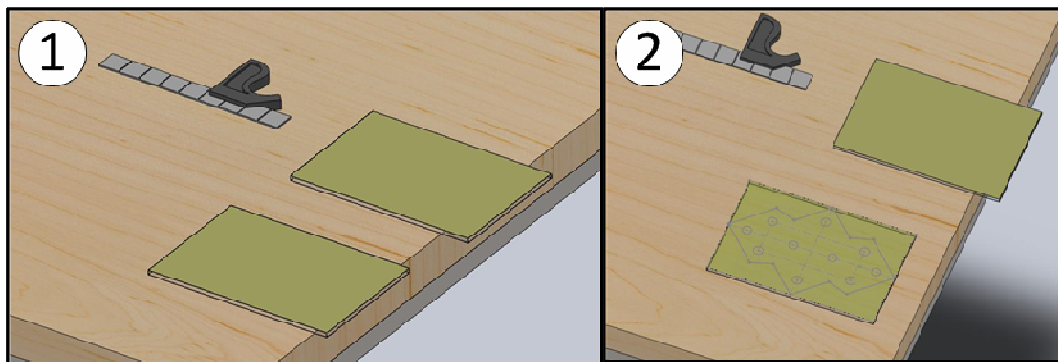

Figure 4: laying out Side 1-(1) Cover both work pieces with strips of Packing Tape. (2) Draw out the edges found in Drawings 1 and 2 on the work piece.
- A. Cover each 6"x9" piece completely with strips of **Packing Tape** as shown in Figure 4(1).